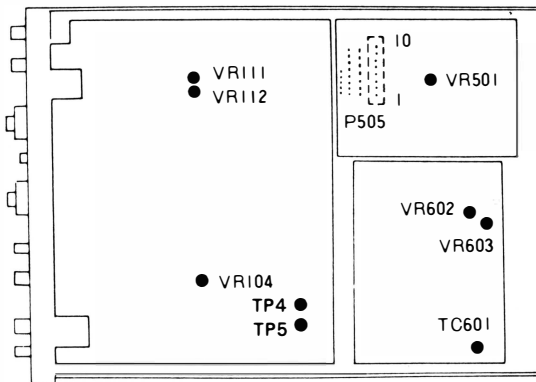

Fig. 49 Bottom View
1. Adjustment of low power voltage (Fig. 49)
2. Intensity adjustment (Fig. 49)
5. CRT Center Adjustment (Fig. 49 and 51).
8. POSITION Adjustment (Fig. 49)
11. POSITION Adjustment (Fig. 49)